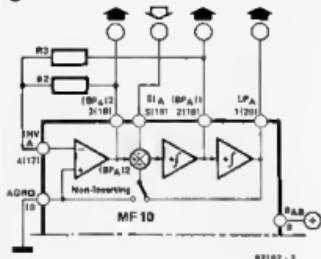

Figure 3. The other half of the MF 10 as a non-inverting 2nd order filter with band and lowpass outputs.
- Figure 3 illustrates the most straightforward version.
Figure 3 depicts a similar filter based on the same principles, the only difference being that it is non-inverting. This configuration is the most straightforward 2nd order function possible, with the MF 10. Only two resistors are required to set the Q, and therefore the gain. Even so, the circuit does contain an
From the several different ways of constructing an MF 10 lowpass filter we chose the simplest, as shown in figure 3. Once the Q factors have been decided upon, it is an easy matter to determine the resistor values.